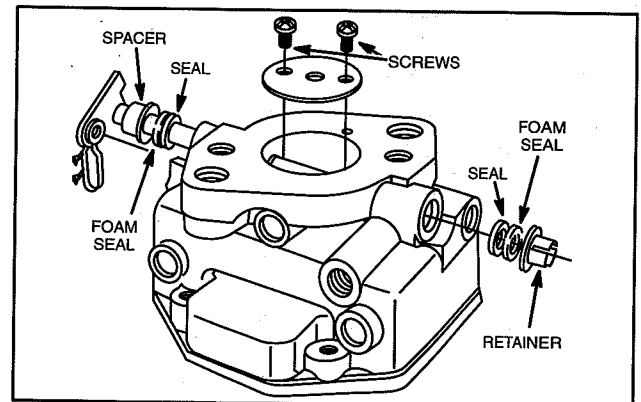

Fig. 103 - Remove Throttle Shaft
- b. Remove throttle shaft with foam seals and spacer, Fig. 103.